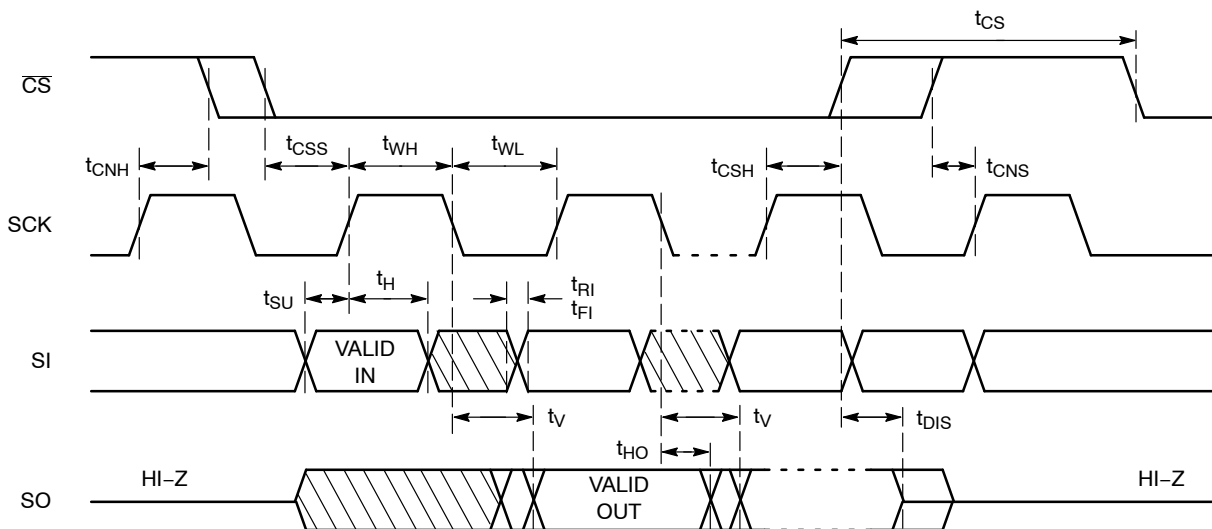

Figure 2. Synchronous Data Timing
9. All Chip Select (CS) timing parameters are defined relative to the positive clock edge (Figure 2). t_{CSH} timing specification is valid for die revision C and higher. The die revision C is identified by letter “C” or a dedicated marking code on top of the package. For previous product revision (Rev. B) the t_{CSH} is defined relative to the negative clock edge.
After a high to low transition on the $\overline{CS}$ input pin, the CAT25256 will accept any one of the six instruction op-codes listed in Table 10 and will ignore all other possible 8-bit combinations. The communication protocol follows the timing from Figure 2.